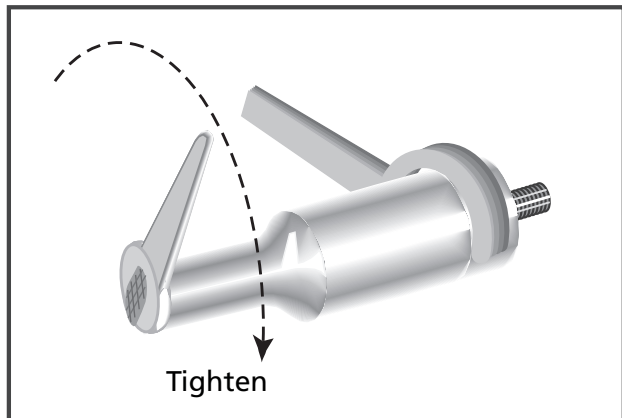

Figure 6-4 Replaceable Tip Installation
3. Thread the tip into the horn and tighten to the torque specifications below using an open end wrench of the correct size to fit the wrench flats of the tip. This is illustrated in Figure 6-4. If necessary, use a spanner wrench (on horns with spanner wrench holes) or an open end wrench (on horns with wrench flats) to keep the horn from turning in your hand. A canvas strap wrench is permissible if it does not gouge or scratch the horn.